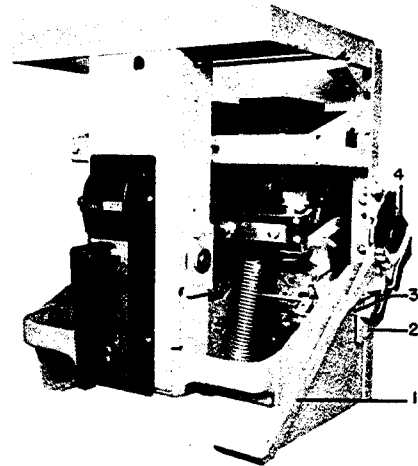

Fig. 43 (8026230) Typical drawout mechanism
(FIG. 43)
**ADJUSTMENTS (Fig. 43)**